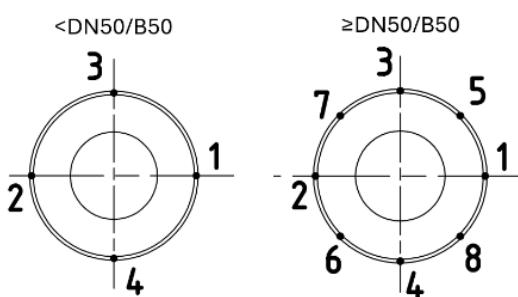

Fig. 4: Tack welding
a) First, the block flange is secured by alternating tack welding (Fig. 4).